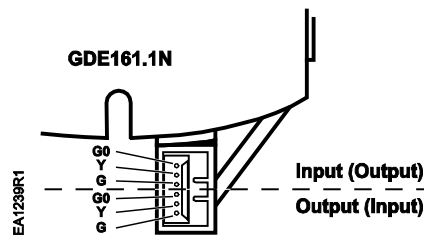

Figure 27. GDE161.1N Post Header AMP.
The GDE161.1N Post Header AMP has two sets of identical contacts as shown in Figure 27.
1. The open bracket to the right of the actuator (See Figure 27) is used for strain relief of the customer purchased cabling (See *Required Tools*).